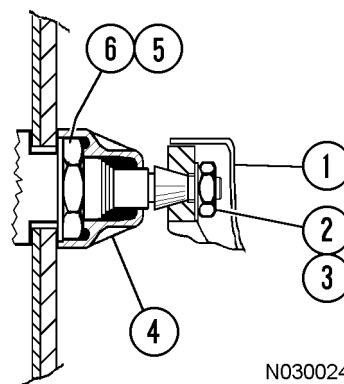

FIGURE 50-26. WIPER ARM DETAIL
1. Note the parked position of wiper arm (1, Figure 50-26).
2. Lift the wiper arm cover. Remove nut (2) and washer (3).
1. Place wiper arm (1, Figure 50-26) into the parked position noted during removal. Install washer (3) and nut (2). Tighten the nut to **16-20 N·m (142-177 in lb)**. Close the wiper arm cover.
If the flywheel housing adapter is removed, install flywheel housing adapter (2, Figure 50-26) on the engine flywheel housing. Install 12 capscrews and hardened flat washers (3). Tighten the capscrews to **95 N-m (70 ft lb)**.